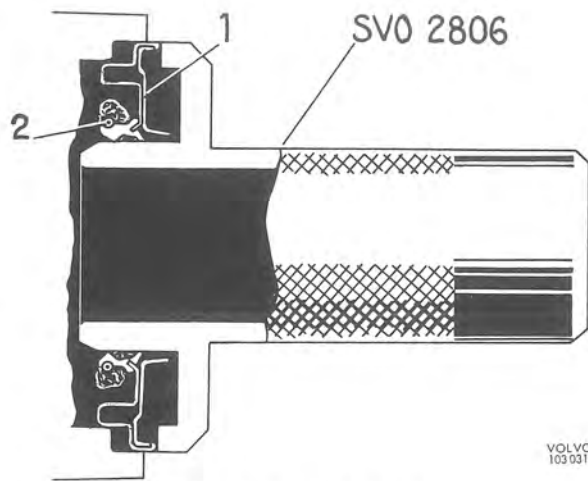

Fig. 4-143. Fitting oil seal
3. Fit the new oil seal with tool SVO 2806. When fitting the oil seal, lubricate the seal lips with grease. At the same time grease the spring coil. See Fig. 4-143. This is to prevent the spring coil from jumping out during fitting.